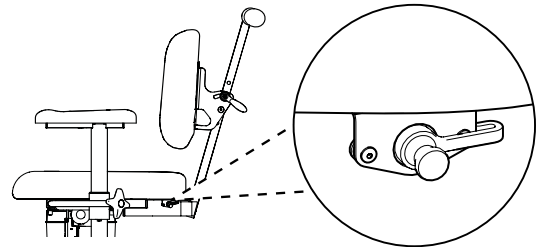

Figure 2.3. Plug connection to the charging outlet under the seat.
1. Inset the plug into the charging outlet (see Figure 2.3). The charging outlet is usually located at the rear edge under the seat.